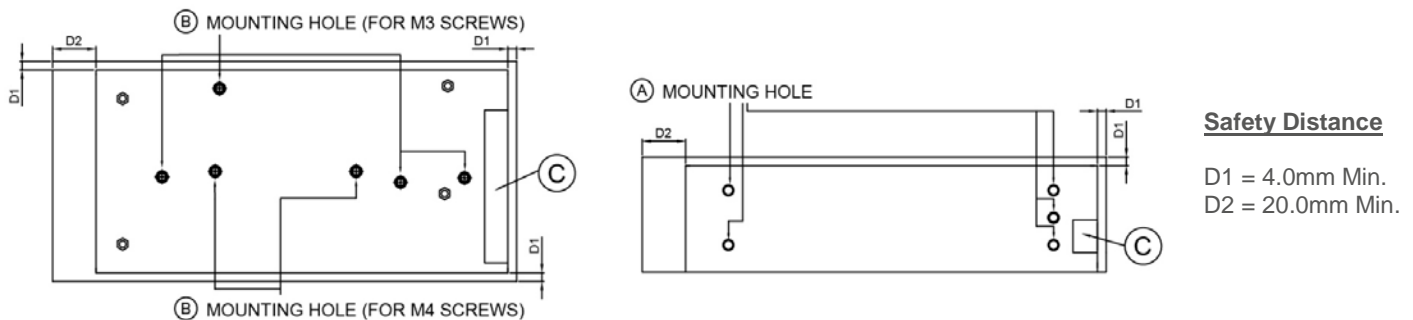

Fig. 3 Mounting Hole Locations and the Safety Distance
- Ⓐ Side Mounting: Fig. 2 and Fig. 3 show the mounting hole locations for power supply assembly onto a metal mounting surface. The power supply shall be mounted on minimum of 4 mounting holes using M4 screw of maximum 4mm (0.16 inch) length (Refer to Fig. 4). This is to maintain a safety distance between the screw and internal components.
- Ⓑ Base Mounting: Fig. 2 and Fig. 3 show the mounting hole locations for power supply assembly onto a metal mounting surface. The power supply shall be mounted on minimum of 4 mounting holes using M3 screw or 2 mounting holes using M4 screw of maximum 4mm (0.16 inch) length (Refer to Fig. 4). This is to maintain a safety distance between the screw and internal components.